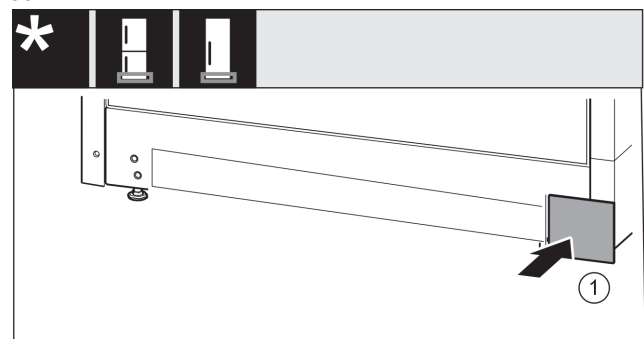

Fig. 37
- ▶ Re-attach the cover Fig. 37 (1) on the other side.